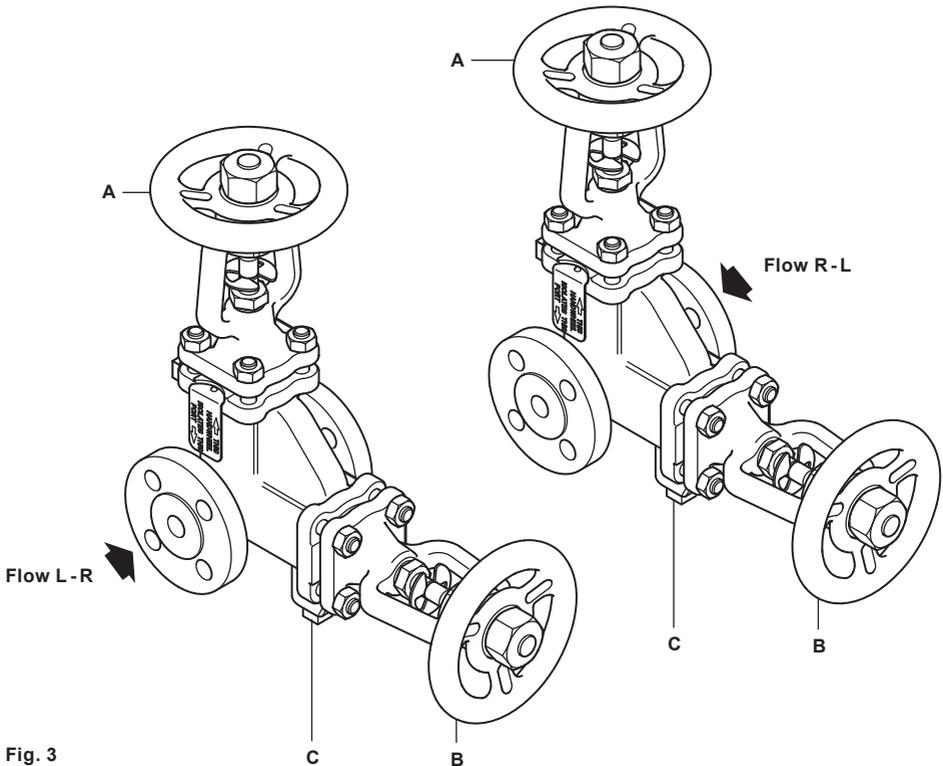

Fig. 3
- 5.4** A Valve Integrity Test must be undertaken prior to each double isolation of the system. Refer to Figure 3 and the Table below for correct sequence of operation.
5.5 Before undertaking any maintenance of plant downstream of the valve both handwheels should be isolated. Refer to Figure 3 and the Table below for the correct sequence of handwheel operation. When handwheels **A** and **B** are closed and drain port **C** is opened there will be an initial discharge as the valve depressurises. If there should be any visible discharge after a short period, consult Spirax Sarco Service Department.